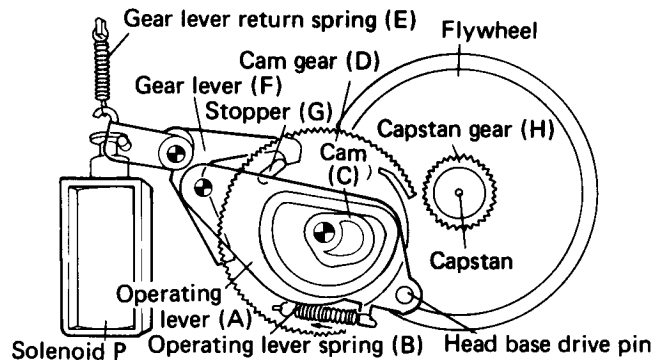
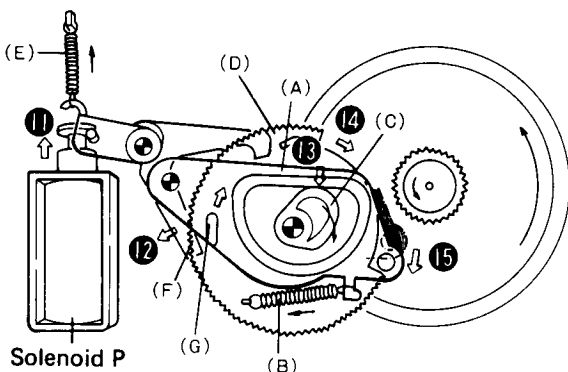

Fig. 3-6 STOP operation
Fig. 3-11 PLAY → STOP operation
- **Stop Mode** (see Fig. 3-6)
The head base shift mechanism during stop mode is shown in Fig. 3-6. Operating lever (A) presses down towards cam (C) due to operating lever spring (B). With cam (C) combined with cam gear (D), clockwise torque is applied to this cam gear. Solenoid P is inactive, and the hook of gear lever (F) is kept against stopper (G) of cam gear (D) by the cam gear return spring (E), thereby keeping cam gear (D) stationary. The flywheel is belt-driven by the capstan motor, and rotates counterclockwise together with the capstan gear.
- **Switch to Stop Mode from Playback Mode** (see Fig. 3-11)
1. When solenoid P is deactivated ⑪, the arm of gear lever (F) is disconnected from stopper (G) by the action of gear lever return spring (E) ⑫.
2. Operating lever spring (B) forces operating lever (A) against cam (C) ⑬, resulting in rotation of cam gear (D) ⑭ and lowering of the head base drive pin ⑮.
3. Stopper (G) catches the hook of gear lever (F), stopping the mechanism in the condition shown in Fig. 3-6 (stop mode).